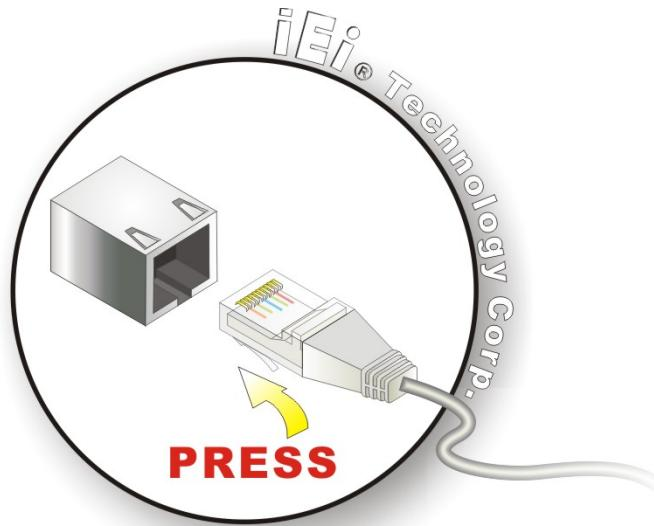

Figure 4-12: LAN Connection
Step 2: **Align the connectors.** Align the RJ-45 connector on the LAN cable with one of the RJ-45 connectors on the PCISA-PV-D4251/N4551/D5251. See **Figure 4-12**.